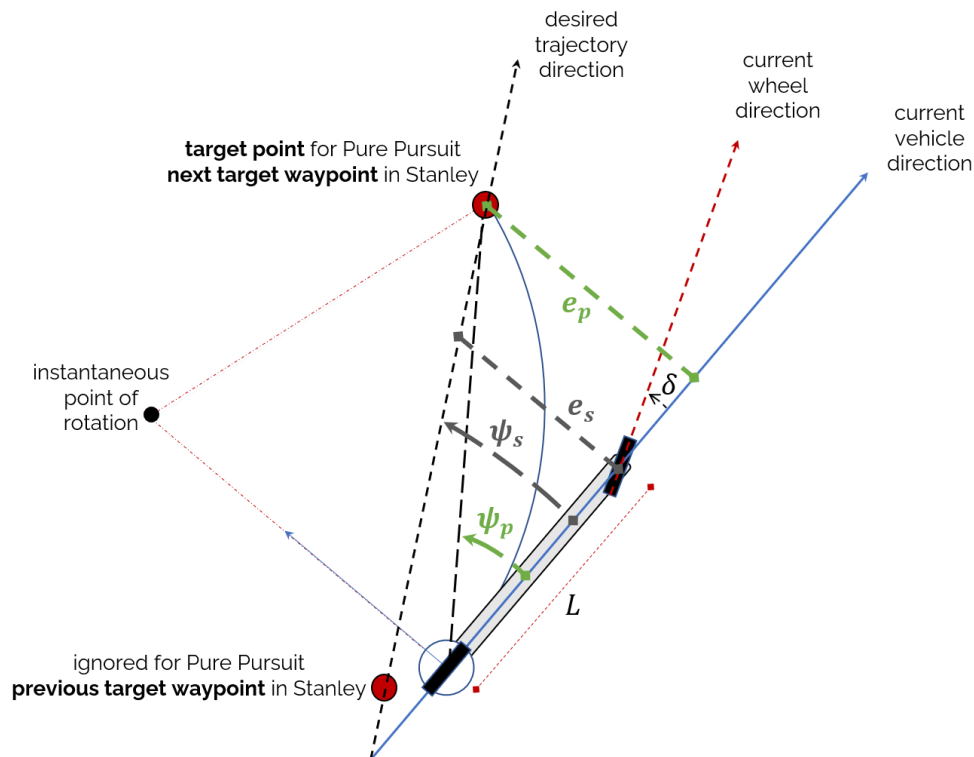

Figure 4: Geometric diagram comparing heading and cross track error definitions in a pure pursuit
In this situation, the heading error and cross-track error definitions change slightly, as illustrated in Figure 4. In the pure pursuit controller:
- Cross track error  $e_s$  – the shortest distance from the front axle reference point to the line joining the previous/next target waypoints. It is vital to understand these differences, and as such, are illustrated in Figure 4 for clarity.